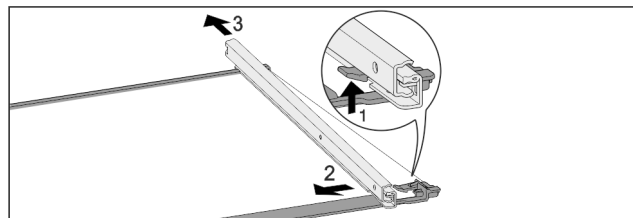

Fig. 58 Glass shelf with rails
- Push up front click-in hooks. Fig. 58 (1)
- Move the pull-out rails to the side Fig. 58 (2) and to the rear Fig. 58 (3).